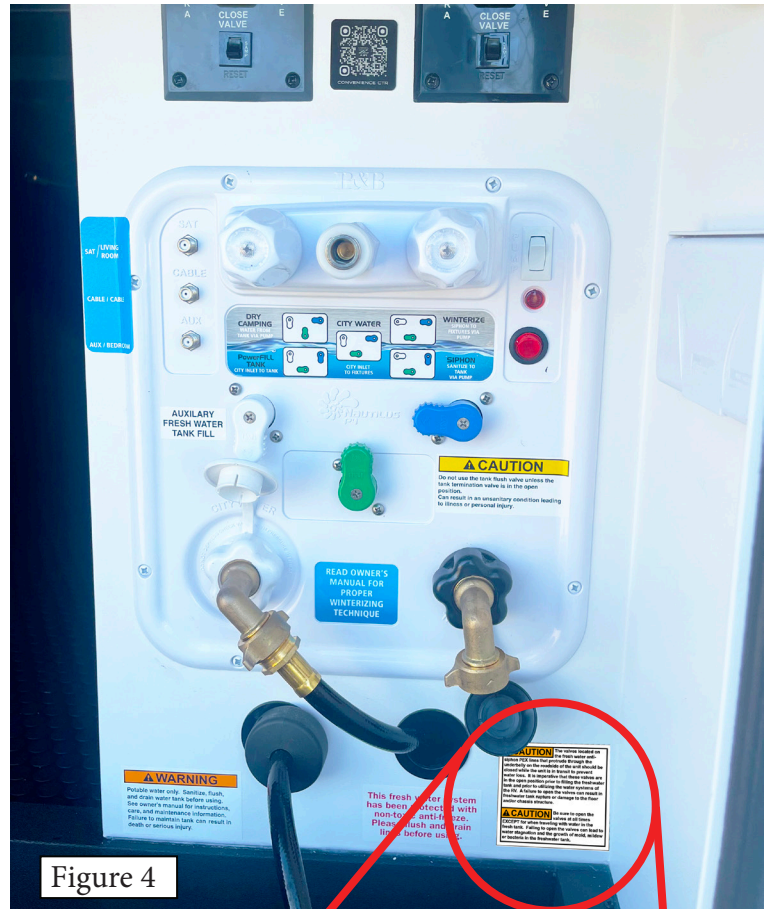

Figure 4
7. Install the CAUTION label in the utility compartment, below the Convenience Center, beside the winterizing label (Figure 4).